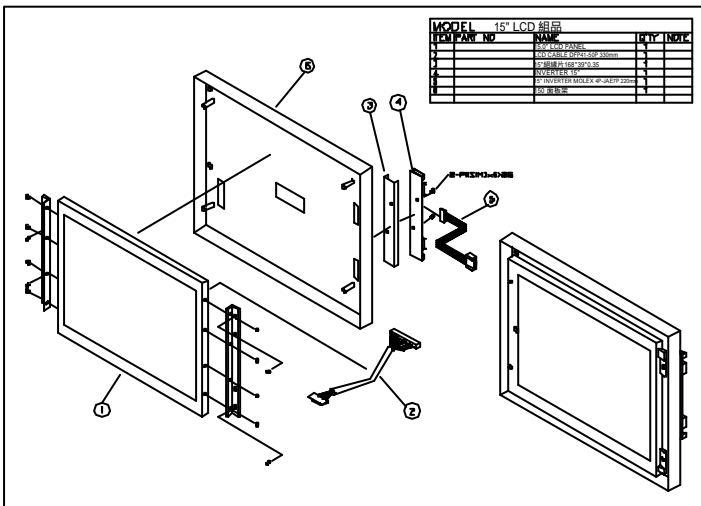

FIGURE 5-10: ODYSSE 150 LCD MODULE ASSEMBLY
1. Refer to Figure 5-10. The standard LCD used in ODYSSE 150 is 15.0" 24-bit LVDS CHI MEI M150X4-L06 or its equivalent.
3. Fix the LCD panel module (1) to the LCD holder (9) with two PMS M3*6 screws.
6. Attach the insulator (6) to the inverter (7).
7. The inverter cable (8) for ODYSSE 150 is a 7-pin to 4-pin wire with wafer connectors at both sides. Connect the 7-pin end to the inverter first. The other end is for later connection to the **INV1** on the motherboard.